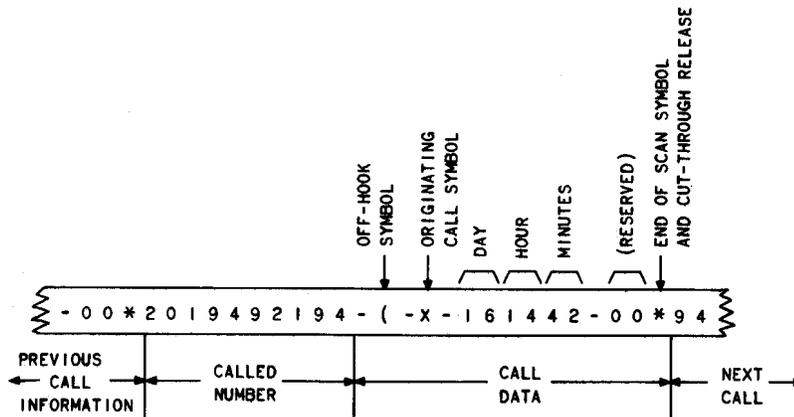

Fig. 5—Format of Call Information Recorded on Paper Tape Printer For Typical Originating Call
- (3) Upon expiration of the last-digit-timing interval (following whatever digits were pulsed), a programmed sequence of 15 symbols representing call data is printed as shown in the example of Fig. 5 and listed in Table B. No further recording of information on this call will occur following the end-of-scan symbol.